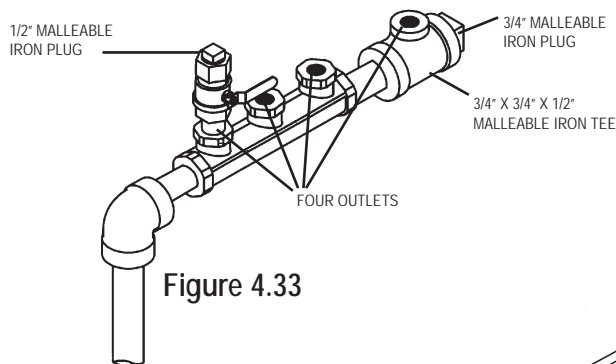

Figure 4.33
- A. Manifolds are used where multiple tubing runs are made from a common location forming a parallel system configuration. Manifolds may be a one piece unit manufactured from malleable iron or brass. They may also be constructed as a welded fabrication of steel and subcomponents and brass or malleable iron tee's connected with pipe nipples. See figures 4.33 and 4.34 below for examples of manifolds.